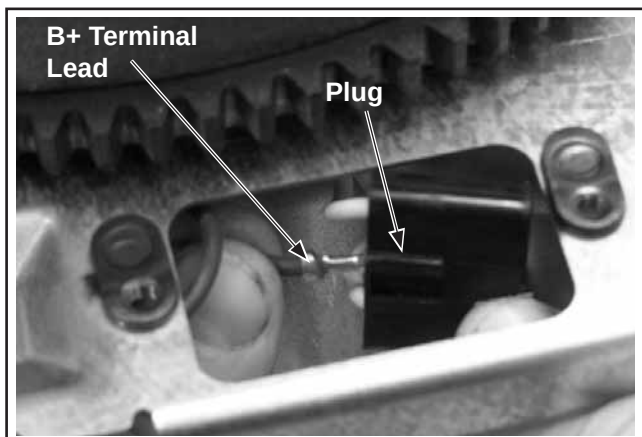

Figure 10-61. Connecting B+ Lead to Plug.
1. Install the B+ terminal/lead into the center position of the rectifier-regulator plug so it locks in place, and connect the plug to the rectifier-regulator. See Figure 10-61.